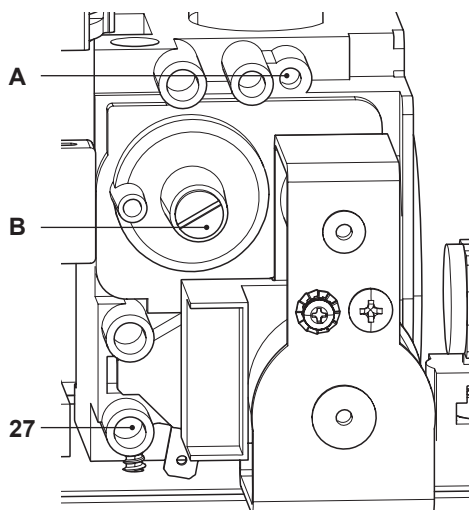

Fig. 7.9
- With the boiler switched on at full rate (maximum D.H.W.), check the supply pressure by using the 27 point in Fig. 7.9 and compare the value with that reported on the Gas supply pressure table (minimum inlet pressure) in the "Technical Data" section (page 24 **Advance Plus 16S ERP**, page 27 **Advance Plus 25S ERP** and page 30 **Advance Plus 30S ERP**).
- Ensure the test nipple 27 in Fig. 7.9 is firmly closed.